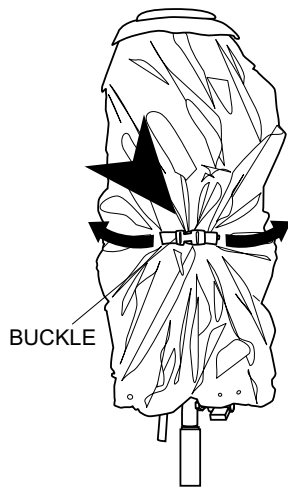

Figure 11. Releasing Buckle
9. Release the buckle on the belt holding the balloon together. See Figure 11.